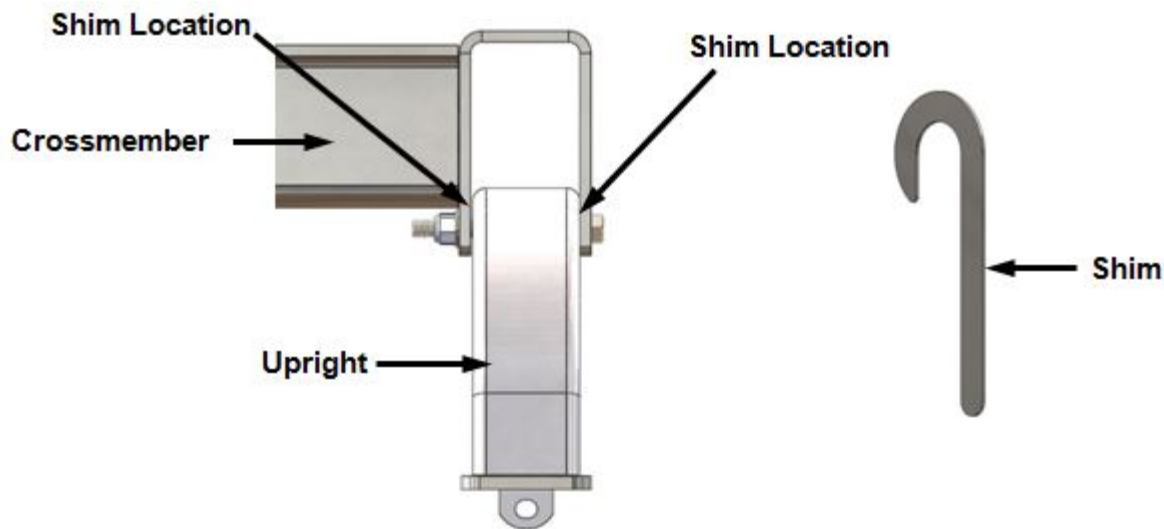

Figure 5
12. Check each rail hitch pin for freedom of movement in the bed rail connection before tightening the 5/8" bolts and nuts. Adjust uprights, if necessary, by placing shim 31582 or 30243 between the upright and the cross member to obtain free pin movement. See Figure 5. Shims 31582 & 30243 sold separately.